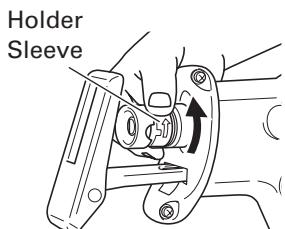

Fig. 3
- (2) Turn the holder sleeve in the direction of the arrow mark shown in Fig. 3 marked on the holder sleeve. If you turn the holder sleeve halfway you will be able to secure it automatically. (Fig. 3)
- (2) After you have turned the holder sleeve in the direction of the arrow mark shown in Fig. 3 and secured it, turn the blade so it faces downward. The blade should fall out by itself. If the blade doesn't fall out, pull it out by hand.
- (1) After use, blow away sawdust, earth, sand, moisture, etc., with air or brush them away with a brush, etc., to ensure that the blade mount can function smoothly.
- (2) Periodically lubricate the saw blade mount with machine oil through the semicircular slit at a state where the holder sleeve is turned in the direction of the arrow mark shown in Fig. 3. (Fig. 9)